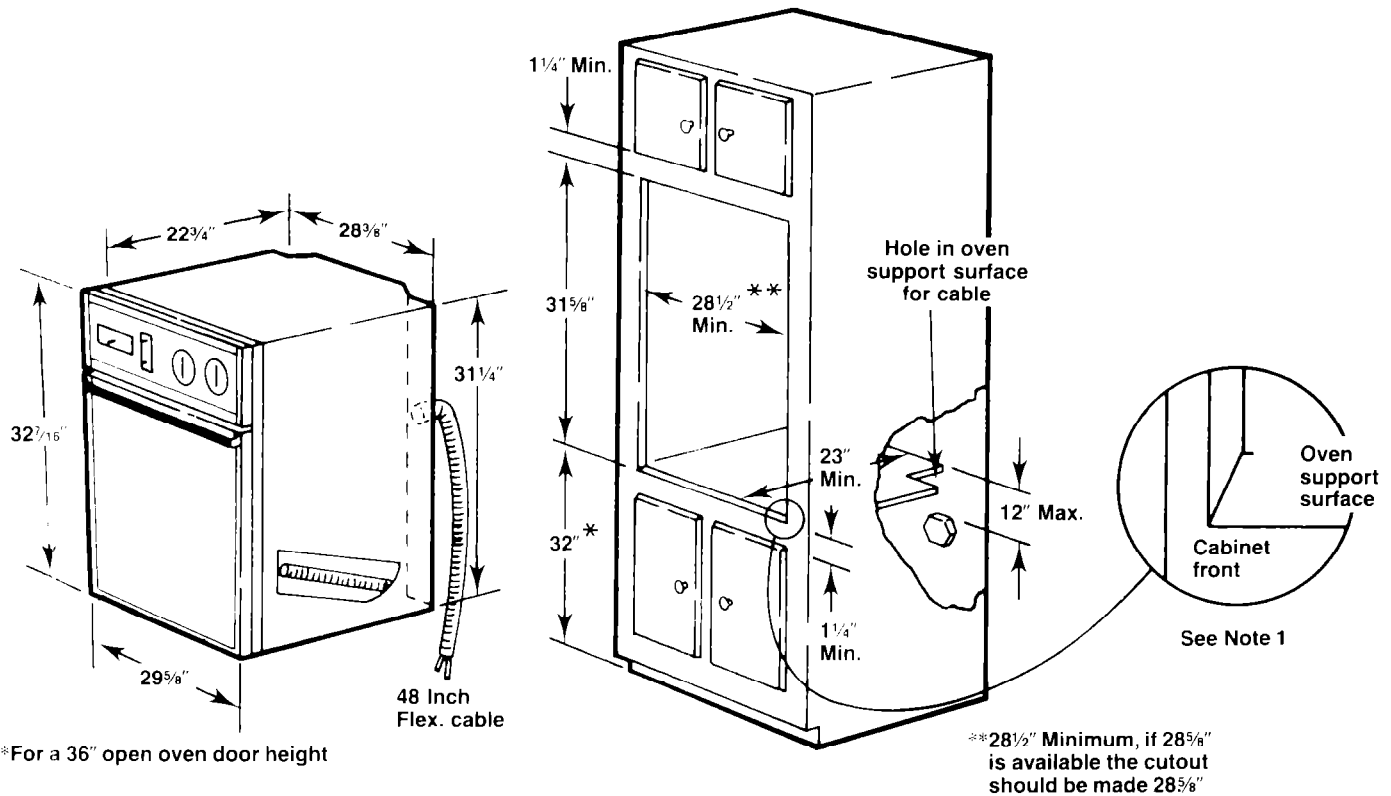

Figure 1 – Rough-in dimensions
Refer to Figure 1 for the dimensions of the oven and the space necessary to receive the oven. The oven support surface may be solid plywood or similar material but the contact surface must be level from side to side and from front to rear. This surface is 4" below the open door height.
- B.** The appliance should be connected to the fused disconnect (or circuit breaker) box through flexible armored or non-metallic sheathed cable. The flexible armored cable extending from the appliance should be connected directly to the junction box. The junction box should be located as shown in Figure 1 so that as much slack as possible remains in the cable between the box and the appliance so that it can be moved if servicing is ever necessary.